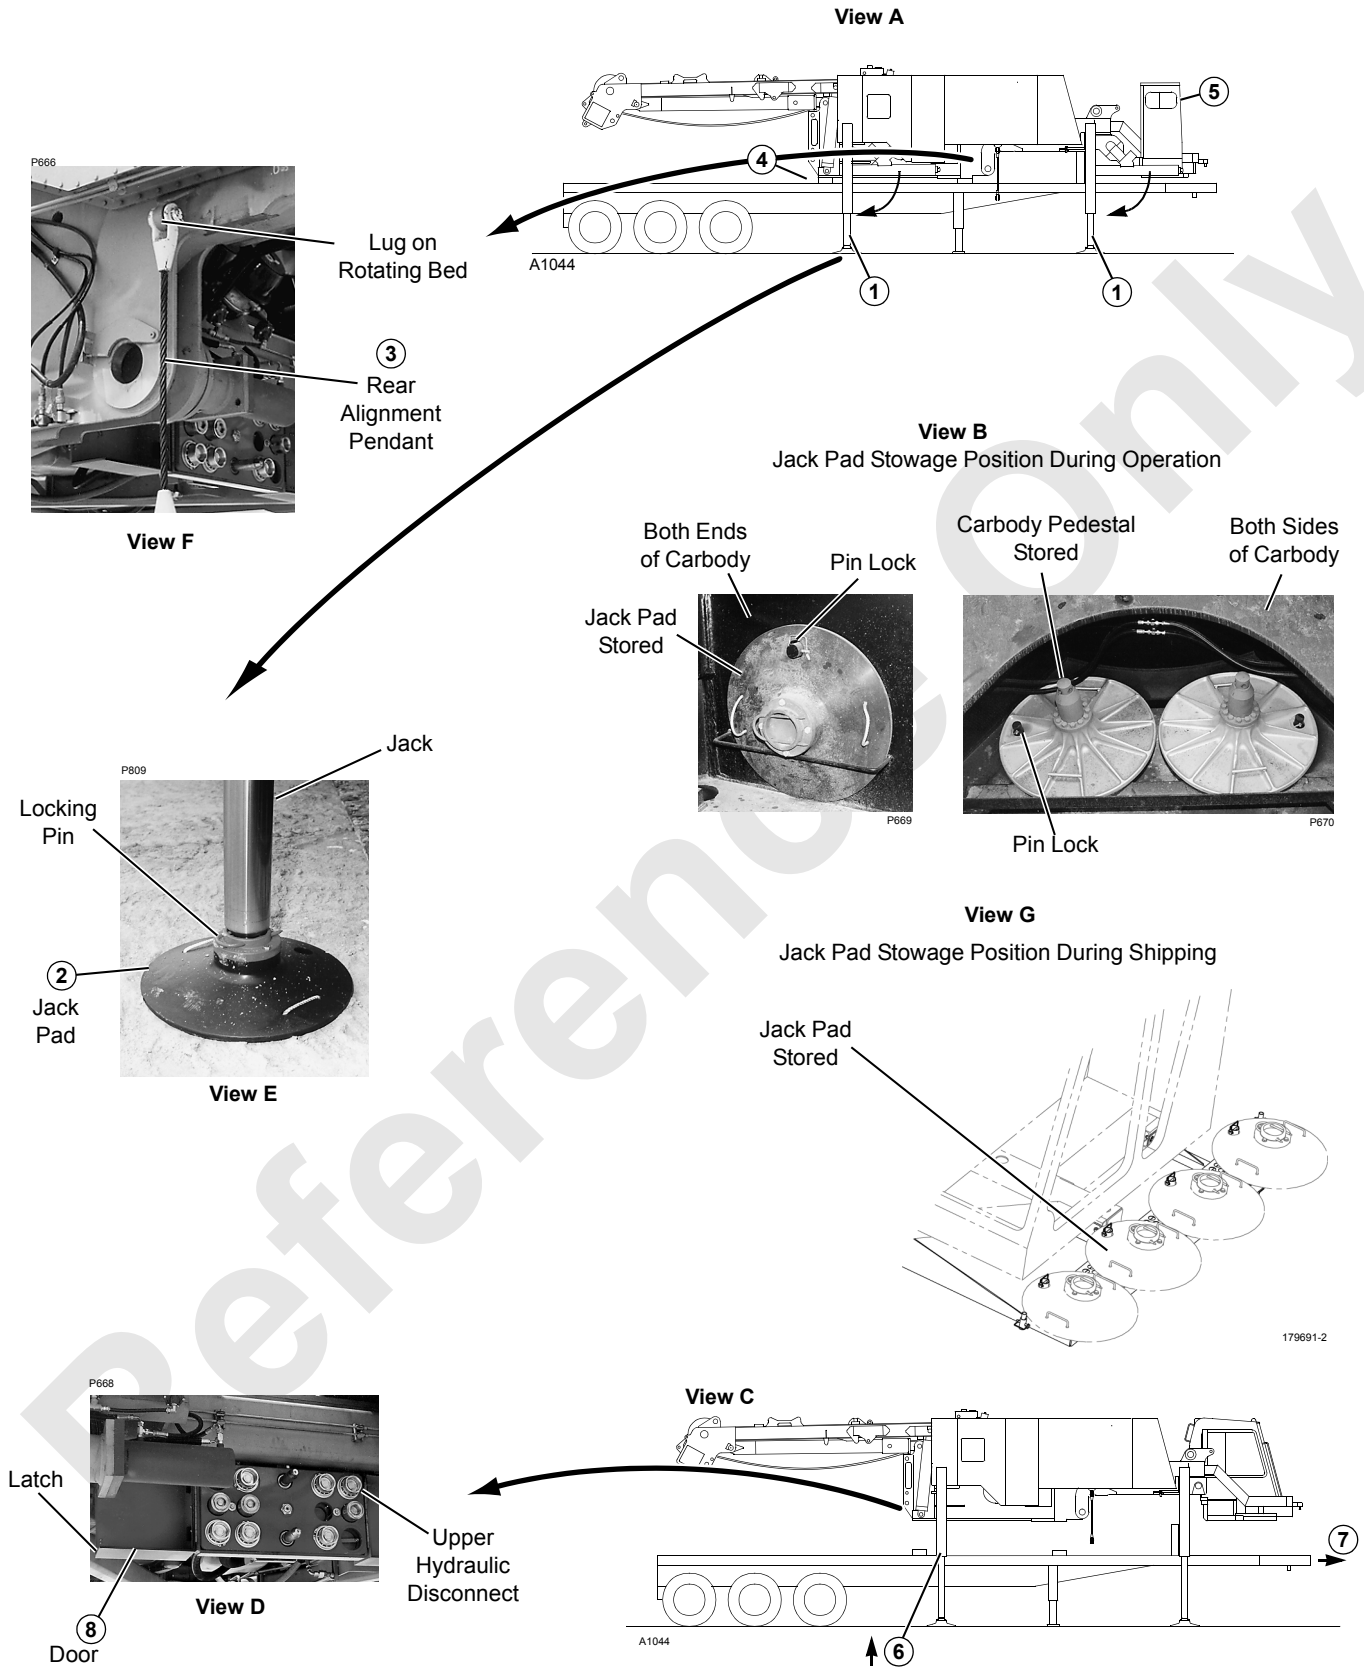

FIGURE 4-7
NOTE: The circled numbers in Figure 4-7 correspond to the numbers of the following steps.
2. Remove the jack pads from storage (Figure 4-7, View B) and fasten them to the jacks (see View E).
3. Pin the rear alignment pendants to the lugs on the rotating bed (Figure 4-7, View F).
6. Fully extend the jacks to lift the rotating bed off the trailer (Figure 4-7, View C).
7. Remove the trailer (Figure 4-7, View C).
8. Unlatch and open the doors covering the upper hydraulic disconnect (Figure 4-7, View D).